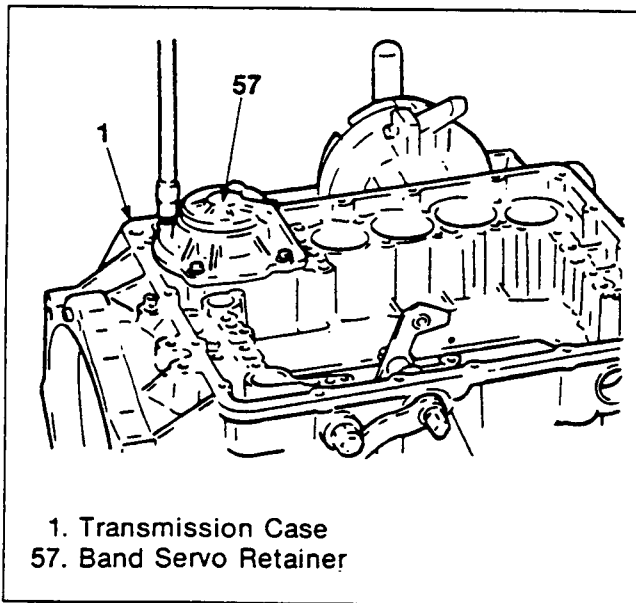

Figure 42. Band Servo Retainer Removal
Band Servo (Figures 42, 43 and 44)
1. Remove the bolts, and the retainer (figure 42).